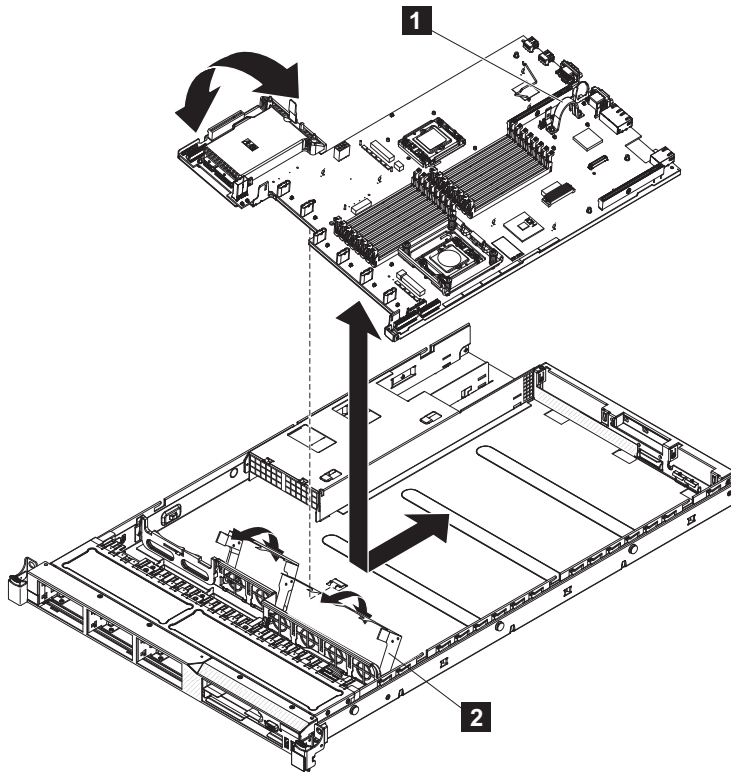

Figure 325. Removing and replacing the SAN Volume Controller 2145-CG8 or 2145-CF8 system board
2. Place the side of the system board assembly that is farther from the power supply units beneath the catches. Lower the opposite side of the system board until it is flat in the chassis. Align the rear connectors with the holes in the rear of the server and slide the system board towards the rear of the node, as shown in Figure 325 on page 395.